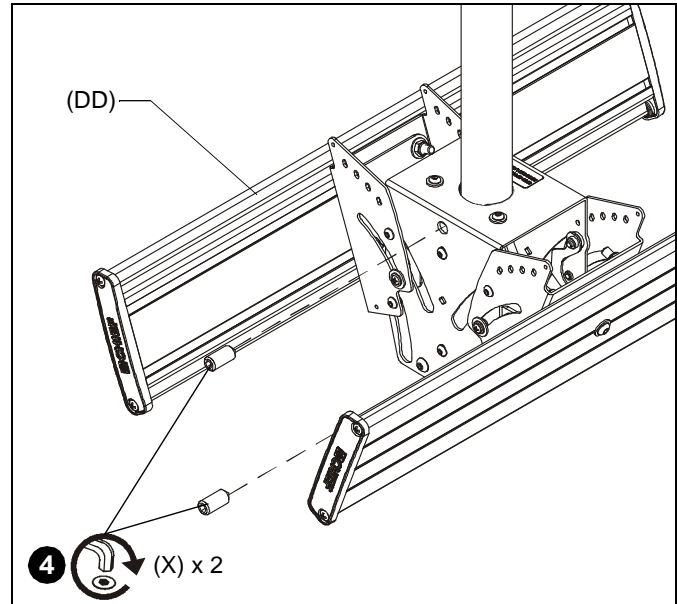

Figure 2
4. Install and tighten two 5/16" set screws (X) through side of mount (DD) and against column. (See Figure 2)